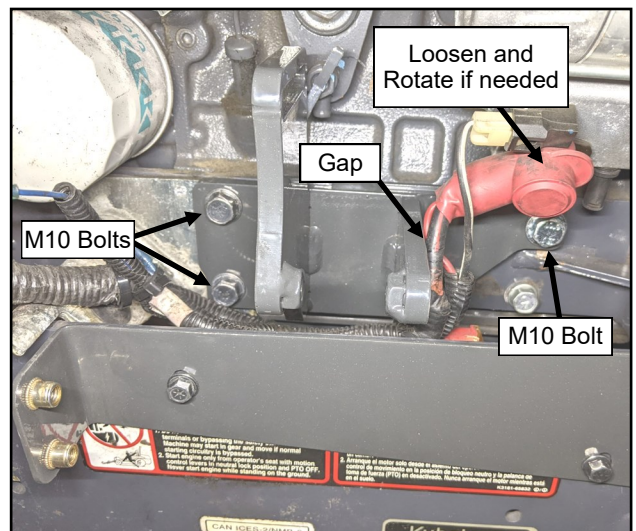

Fig. 1.8 (Install compressor mounting bracket)
- 1.8 See fig. 1.8. Install the compressor mounting bracket behind the alternator wiring. The alternator wiring does not need to be removed, but be careful going past with the bracket. Secure with the hardware listed below.